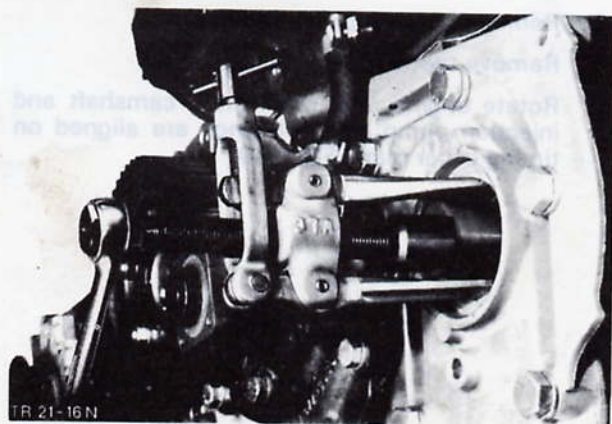

Fig. 133. Remove camshaft oil seal using Special Tool 15-048/048-01
12. Remove camshaft oil seal using Special Tool 15-048 and adaptor 15-048-01, Fig. 133.